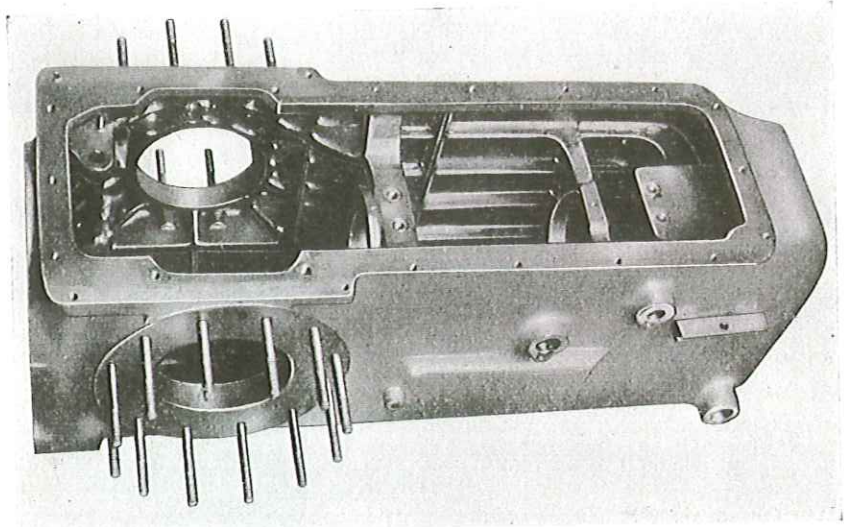

Fig. 76. - Transmission case.
The rear half of the tractor is composed by a ribbed reinforced casting (Fig. 76), which houses the gearbox, bevel gears and differential. The casting is closed on the rear end by a cover through which the P.T.-O. shaft protrudes.
- Check the cast walls of the gearbox housing (Fig. 76) for cracks or other serious defects.